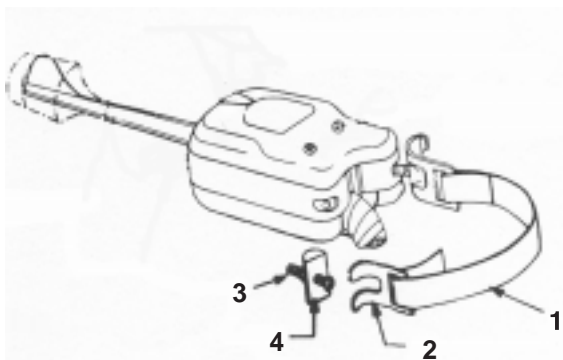

Figure 4
8. Install the turn signal controller (Figs. 4 and 5) to the steering column with fasteners and hardware supplied in the kit as follows: